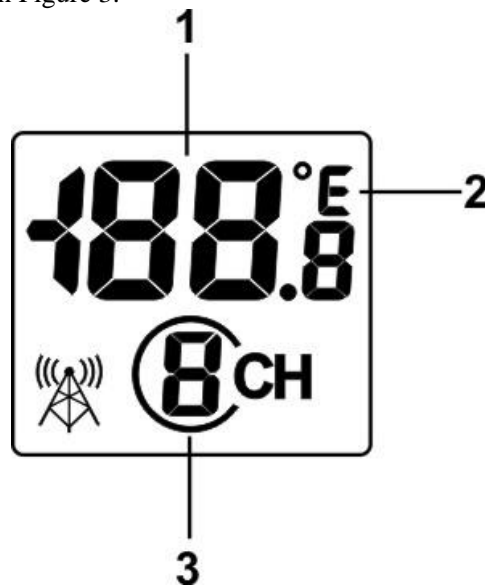

Figure 3
7. Verify the correct channel number (CH) and temperature units of measure (°F vs. °C) are on the display, as shown in Figure 3.